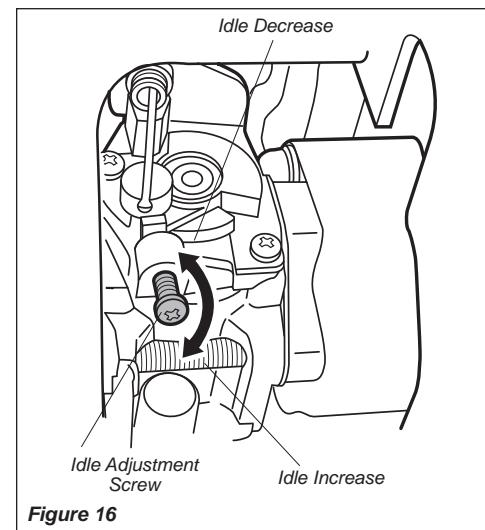

Figure 16
2. If a tachometer is available, the engine idle speed should be final adjusted to 2,000 ( $\pm 200$ ) min-1. See Figure 16.